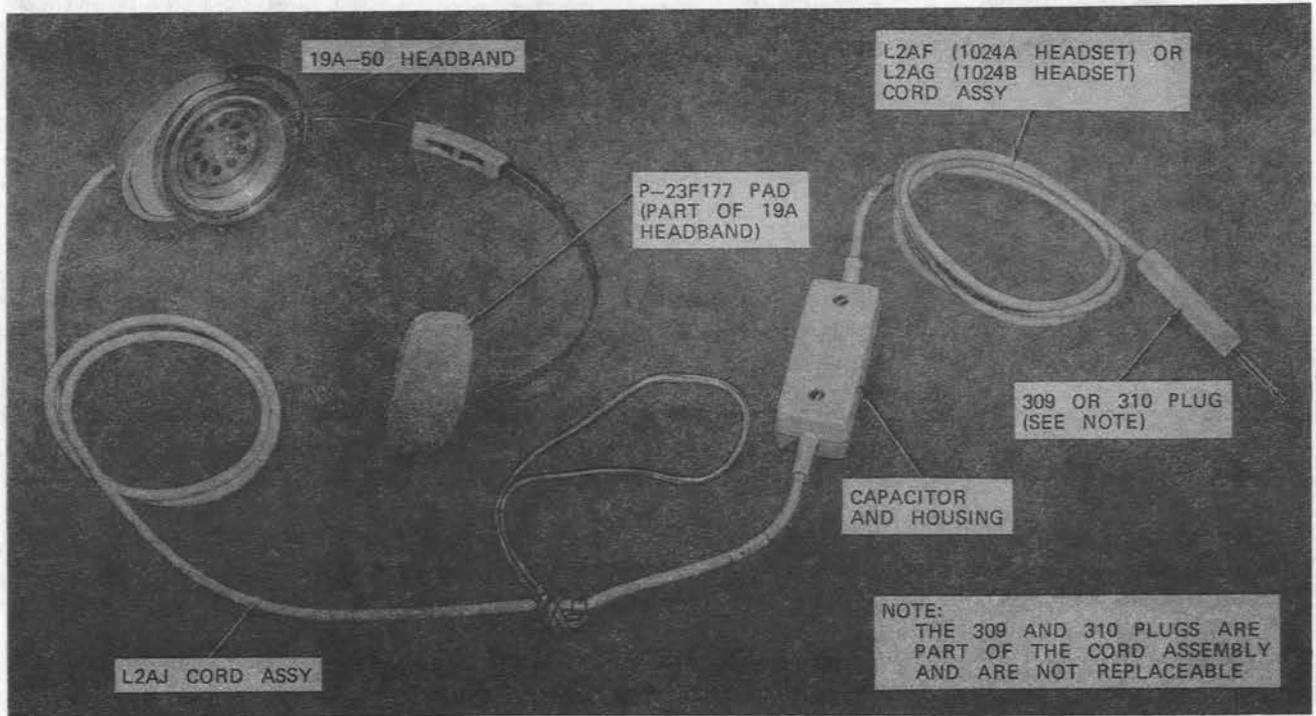

Fig. 3—1024A- And 1024B-Type Headset
- (1) At the transmitter-receiver unit, unscrew the cap from the housing assembly and remove wave washer and ring.
- (2) With the KS-6854 screwdriver, remove the screws holding the cord terminals and remove cord retainer and cord.
- (3) Position new cord in housing assembly, replace cord retainer, and connect terminals as shown in Fig. 3.
- (4) Replace ring, wave washer, and cap.
- (5) At the 280A-50 amplifier, remove the housing screws using the 3-inch C screwdriver; lift off cover assembly.
- (6) With the KS-2348 and KS-6854 screwdrivers, remove the terminal screws and remove the L4CJ cord from the amplifier.